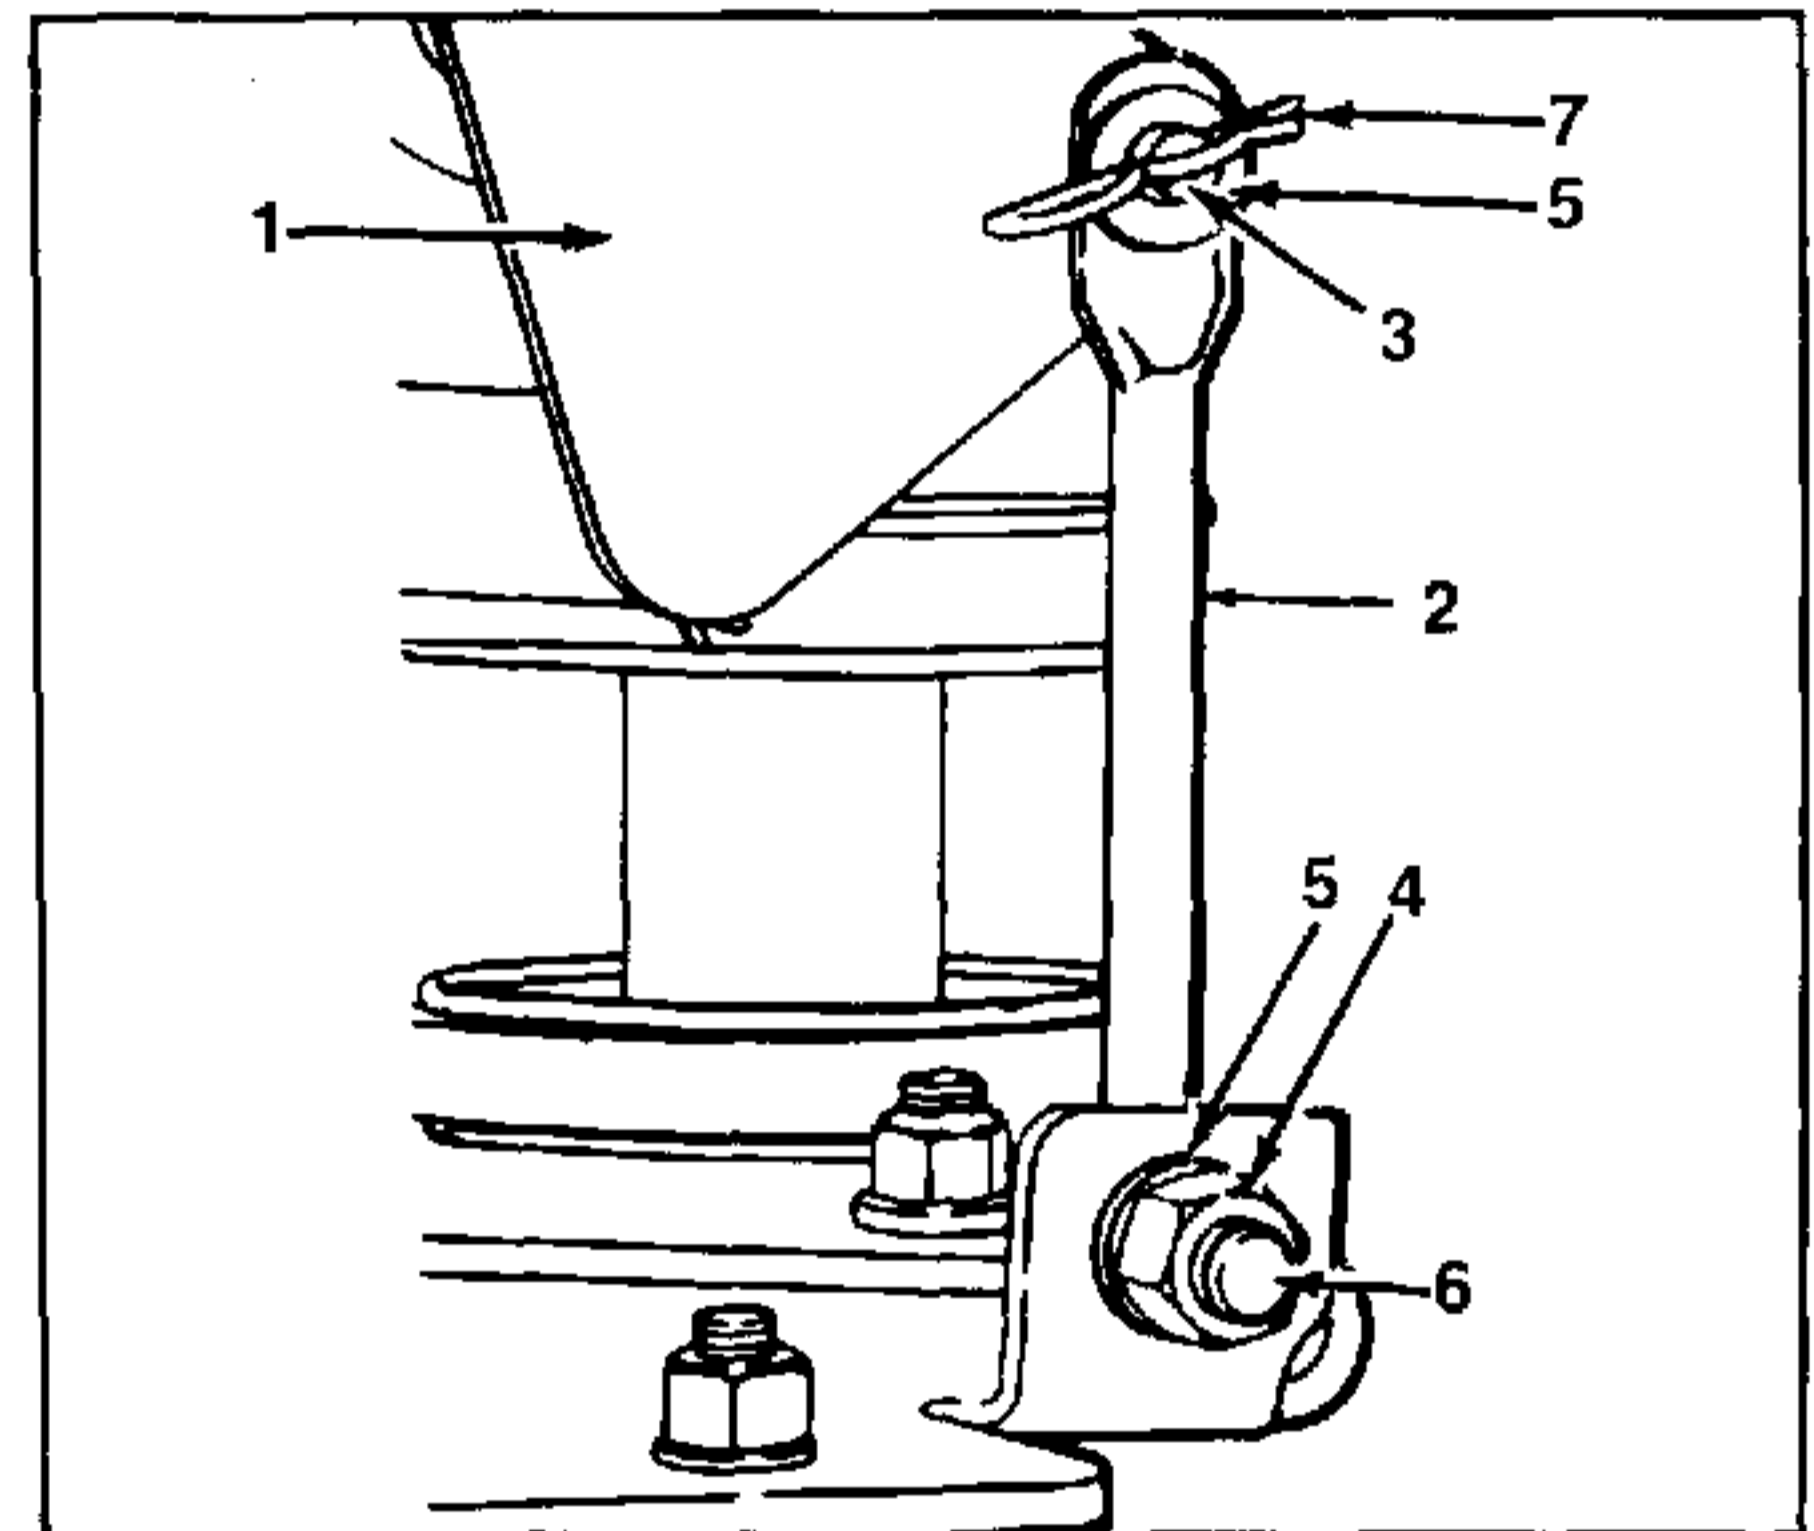

FIGURE 8.
3. Refer to figure 8. Note the relative position of the flat area at the top of the two rear lift links, to the welded lift pins on the lift carriage. Remove the hairpin cotters and flat washers which attach the rear lift links to the lift pins. Remove the two rear lift links.